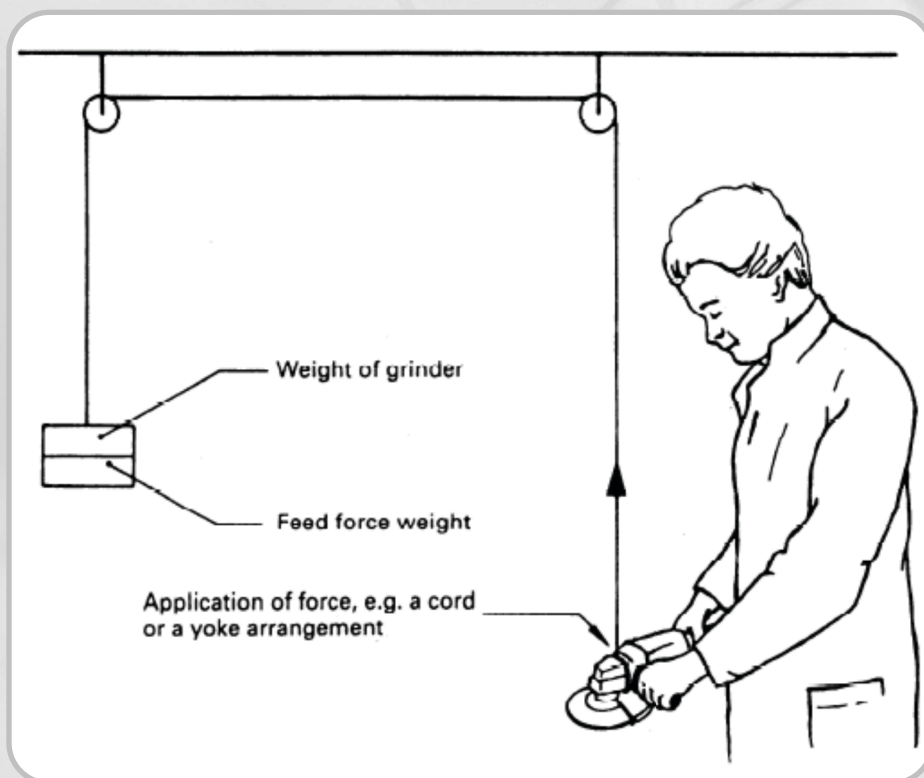

Figure 10. ISO 60745 test harness schematic
- ▶ The harness consisted of a wire attachment fixed to the angle grinder above the grinding wheel (Figure 10), a cable looped through two pullers, and a free weight that was selected to equal the mass of the grinder, plus sufficient weight to simulate the required feed force.